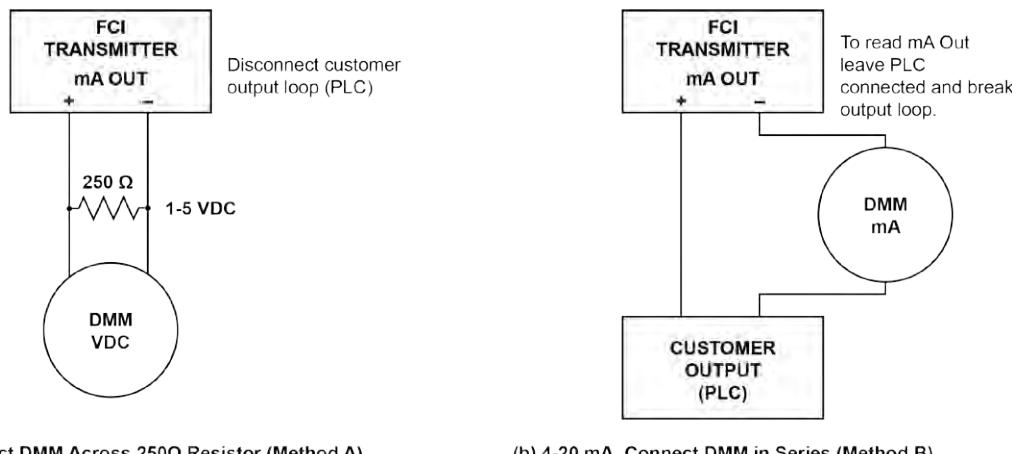

Figure 60 – DMM Hookup to Measure 4-20 mA Output
4. Connect a DMM to the transmitter 4-20 mA output by either method A or B as shown in Figure 60 below.
- a. To read 1 to 5 volts, disconnect both output loop wires and connect a precision 250 Ω resistor across the output terminal. Then connect the DMM, set to DC volts (V), across the resistor to read its voltage drop.